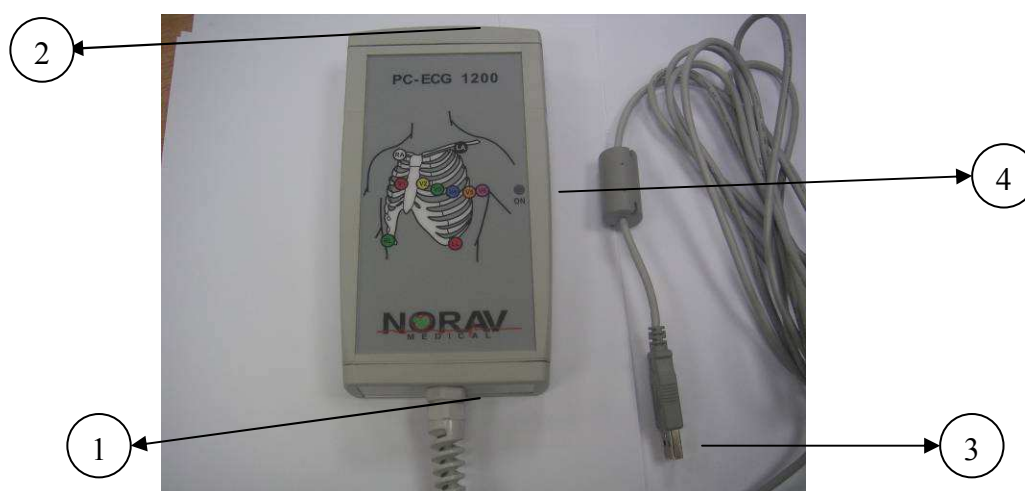

Figure 5: PC-ECG 1200HR (with built-in USB cable)
- ◇ Acquisition box (see Figure 5, below)
- ◇ Built-in USB cable (see Figure 5, below)
1. Connect the USB A-type connector of the USB cable (Figure 5, Page 25, detail 3) to the PC.
2. A wizard for installing new hardware driver appears. Follow the instructions. If working under Windows XP press “Continue anyway” on message regarding the digital signature (each time it appears). After the driver is installed make sure the green light is illuminated on the 1200 HR (Figure 5, Page 25, detail 4)
3. Connect the patient cable (Figure 3, page 21, detail 8) to the 15-pin plug of the PC-ECG 1200HR (Figure 5, Page 25, detail 2).